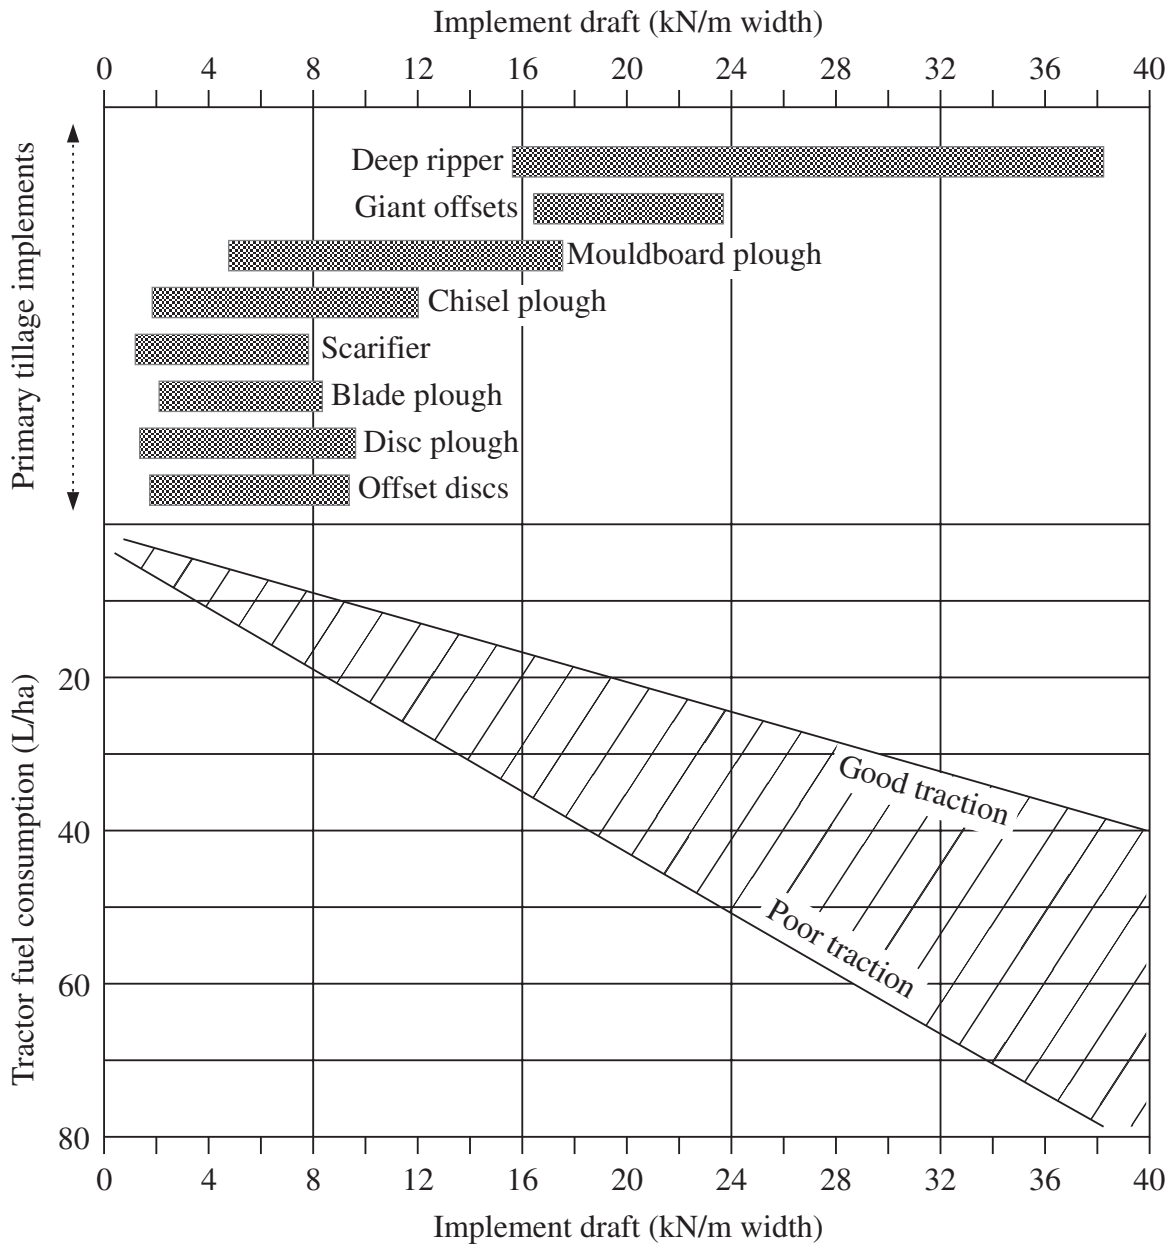

FIG. 2
(b) Answer the following questions with reference to the graph in Figure 2.
- (iii) From the graph in Figure 2, state the minimum and maximum draft force for a blade plough.